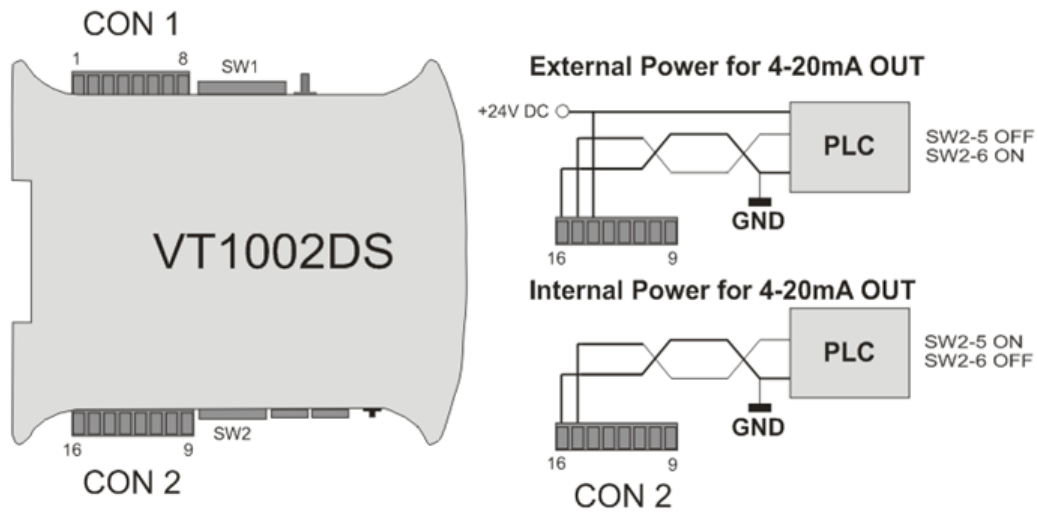

Figure 5 » VT1002DS current loop
4..20 mA current connection is shown on the *Figure 5*.